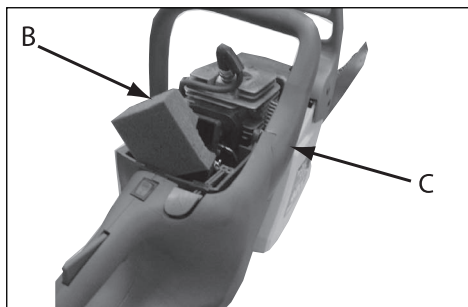

Fig. 15B
2. Lift the air filter (B) out of air-box (C) (Fig. 15B).